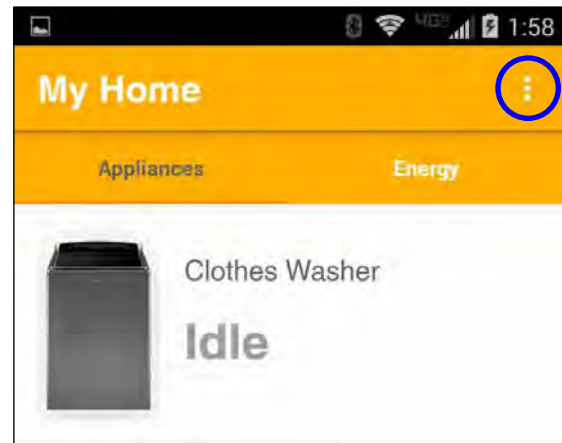

Figure 7
6. **Settings:** Account Settings can be accessed by clicking on the Settings Menu (circled in Figure 7).